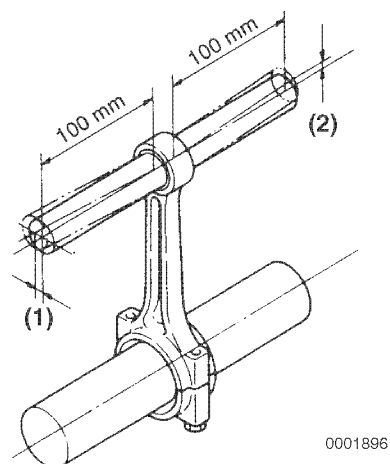

Figure 6-57
5. Check for twist (**Figure 6-57, (1)**) and bend (**Figure 6-57, (2)**). See *Connecting Rod* on page 6-13 for the service limit. Record all measurements.